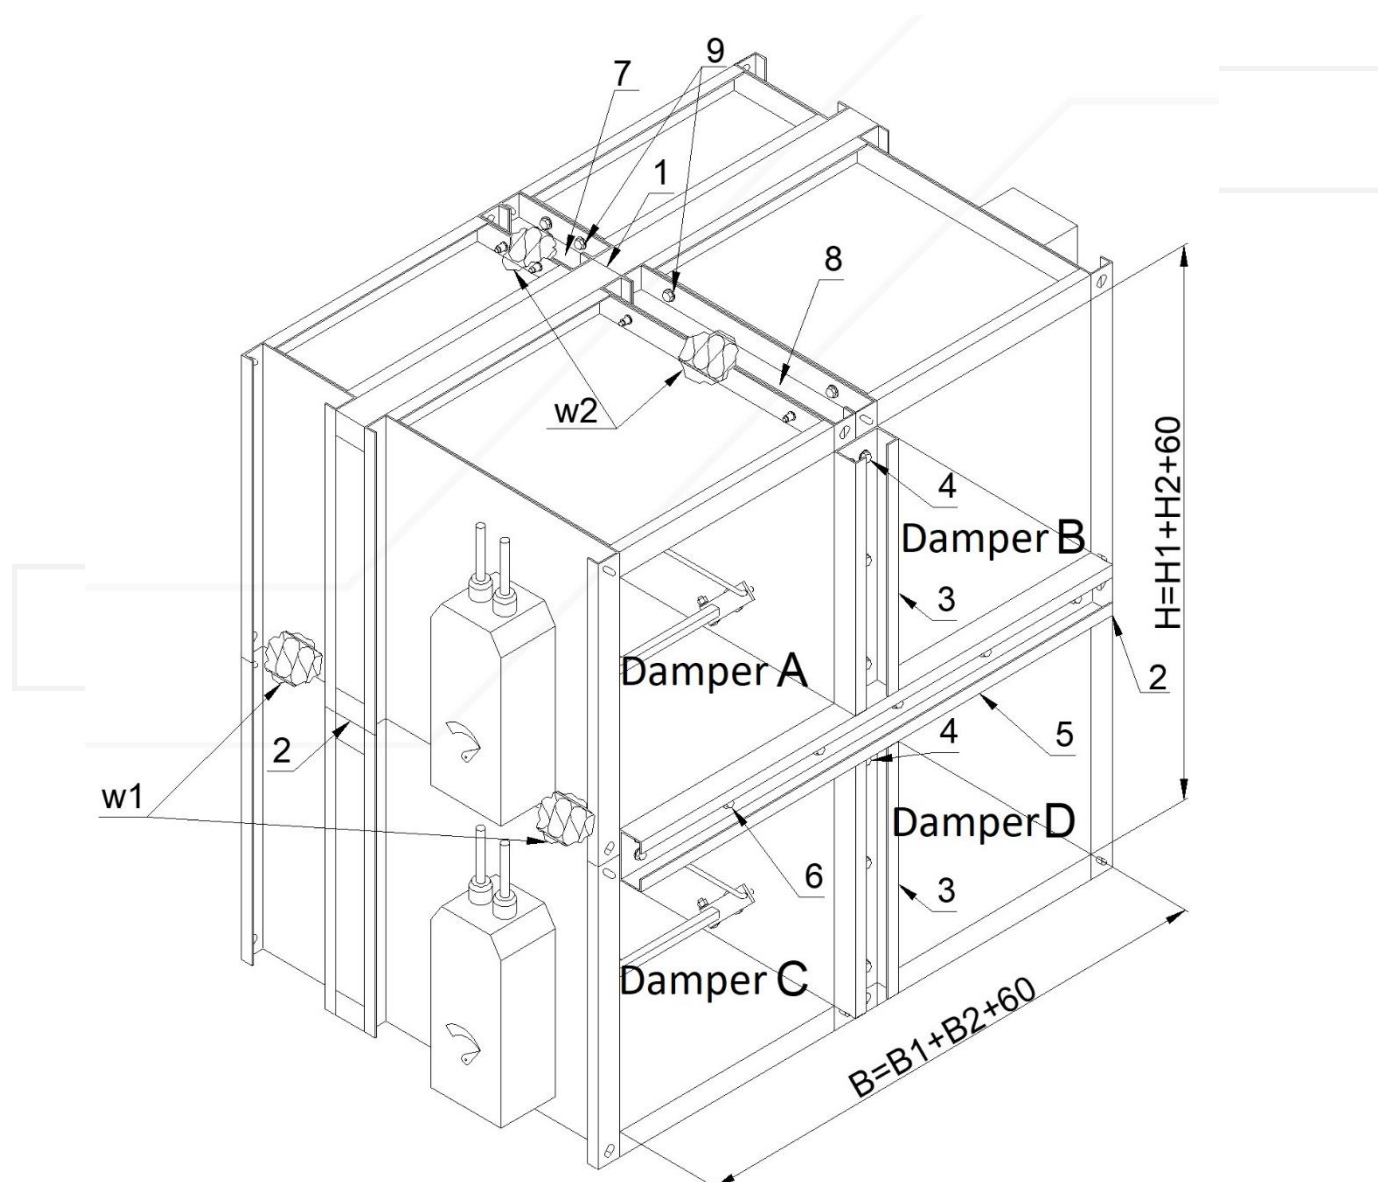

Figure 12. Battery made of four dampers KWP-O
**Arrangement 2** - vertical battery consisting of three fire dampers KWP (Figure 12)
- a. Fix the gasket on insulating spacer of one of adjoining fire dampers (position (1) in the Figure 12).
- c. Place the fire damper B on the fire damper C and assemble them together on the front and back with use of perforated assembly strips (2) and self-tapping screws M6x16 (3), which should be tightened into the openings in fire damper body. In order to carry out the correct assembly, 4 self-tapping screws should be used per each assembly strip with length of 1200 [mm].